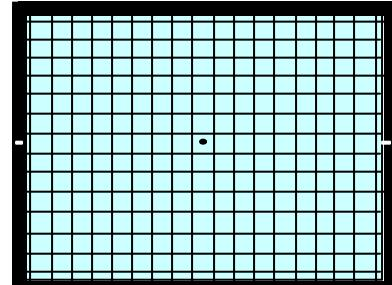

Fig.2-8 NTSC CROSS HATCH
2. Use the VOLUME + or - key on the remote controller to adjust each box to draw a square. (Fig. 2-8)